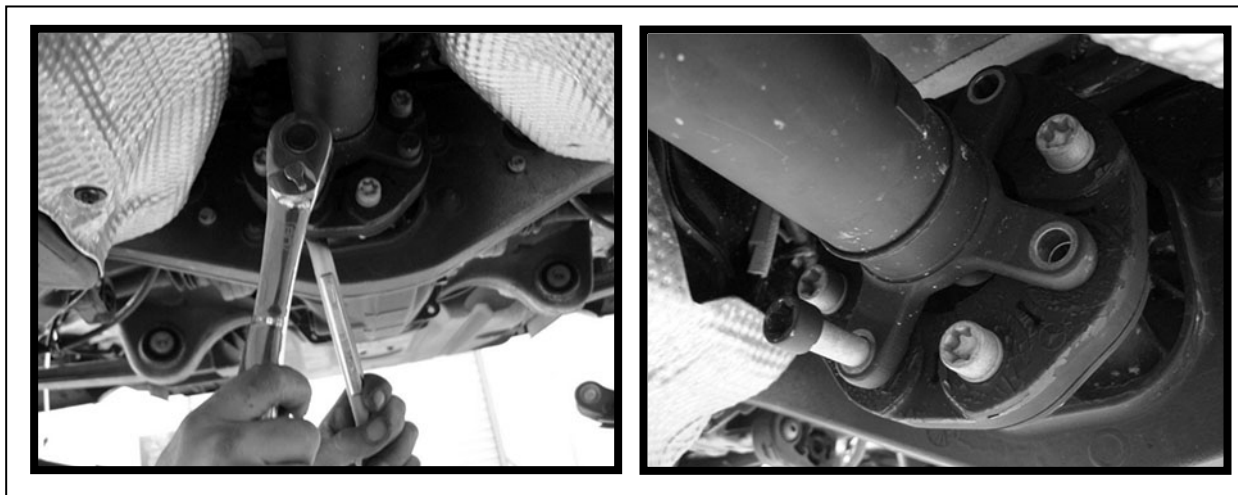

FIGURE 10-15
18.0 REMOVE REAR DRIVESHAFT BOLTS. (FIGURE 10-15)